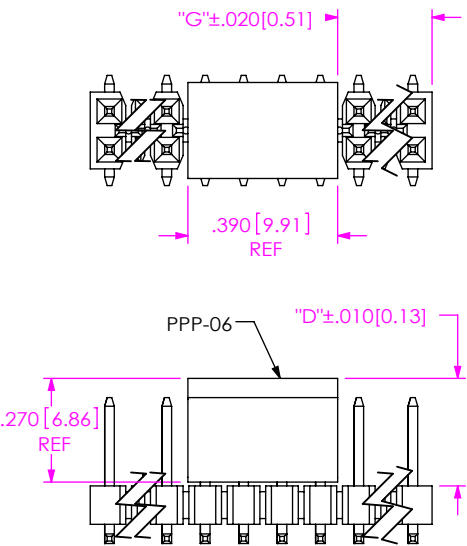

FIG 4
- P: PICK AND PLACE PAD (POS -04 THRU -36, 50 USE PPP-06, SEE FIG 4, SHT 2)